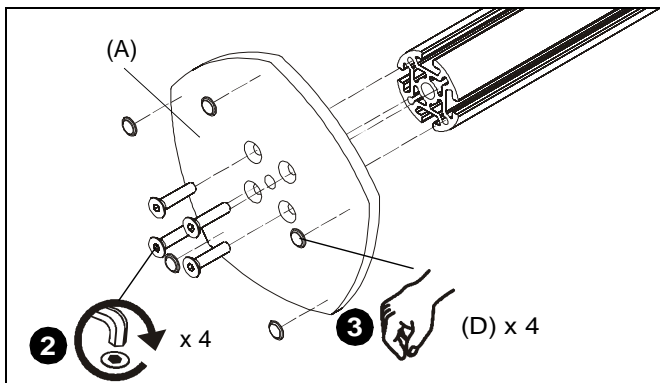

Figure 2
2. Use four screws removed in Step 1 to column plate (A) to column. (See Figure 2)
3. Affix five rubber feet (D) to column plate (A). (See Figure 2)